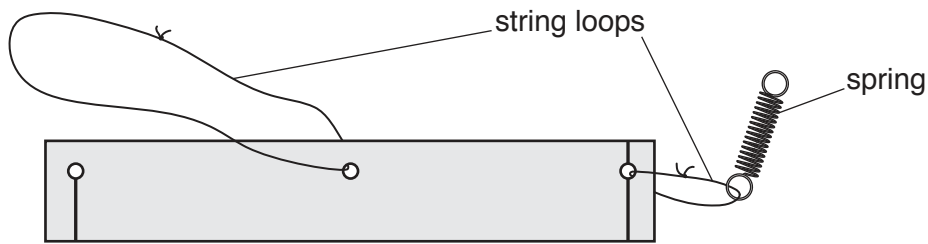

Fig. 1.2
- 2 String loops should be tied through two of the holes, as shown in Fig. 1.2. The loop through the centre hole should have a circumference of 25 cm. The loop through the end hole should have a circumference of 10 cm and should pass through one of the loops of the spring, as shown in Fig. 1.2.